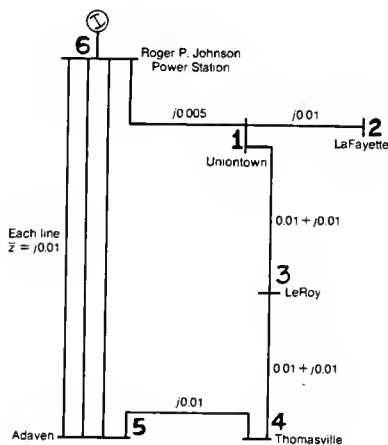

Figure 11: Power System # 6.
6. The power system to be analyzed can be found in Figure 11(3). Line impedances, real power (P), reactive power (Q), voltage magnitude (V), and voltage phase (θ) values at each bus are given in Table 11.